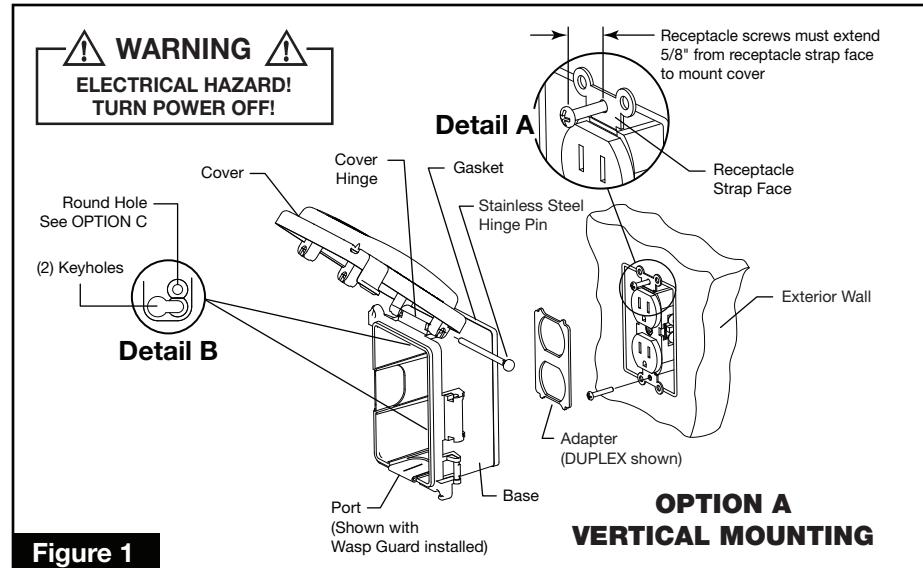
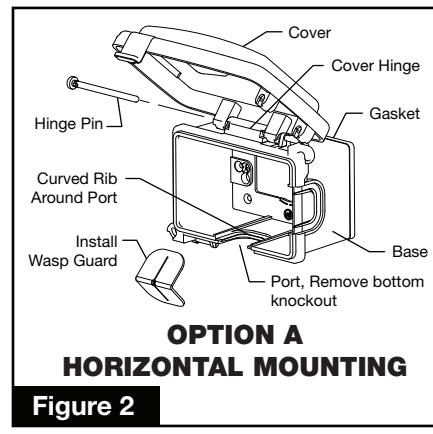

Figure 1
Figure 2
2. **INSTALL WASP GUARD.** Determine desired mounting (Figures 1 & 2). Remove (break-out) knockout from bottom PORT of base using pliers. Remove protective backing from adhesive side of rubber WASP GUARD. Position and place adhesive side on outside of curved rib in open PORT. Carefully fold WASP GUARD along top surface and secure to inside of curved rib in open PORT (see Figure 1, 2 & 3).
3. **DETERMINE DESIRED ADAPTER.** SWITCH: use either Round/Switch Adapter. ROUND RECEPTACLE: Select Round 1-3/8" or 1-9/16" Adapter and remove inner circle. If 1-9/16 Round receptacle is used, break-away and trim curved sections from BASE. GFCI: no adapter is needed. DUPLEX: use Duplex Adapter (Figures 1 & 4).
Vertical Mounting (Figure 1) or Horizontal Mounting (Figure 2). **NOTE:** Position BASE with COVER HINGE on top and open PORT on bottom. Attach receptacle to box by loosely inserting the receptacle screws into the box. Thread screws until heads extend 5/8" from receptacle strap face (Figure 1, Detail A). Push adapter pin(s) into receptacle or switch (Figures 4 & 5). Place BASE keyholes over receptacle/ or /switch screws (Figure 1, Detail B). Make certain gasket overlaps box edges and tighten screws to secure BASE.
Verify GFCI is securely fastened to box. Insert (2) screws (furnished) through top and bottom ROUND holes (Figure 1, Detail B) in BASE into threaded holes in GFCI. Make certain gasket overlaps box edges and tighten screws to secure BASE. See steps 5, 6 & 7.